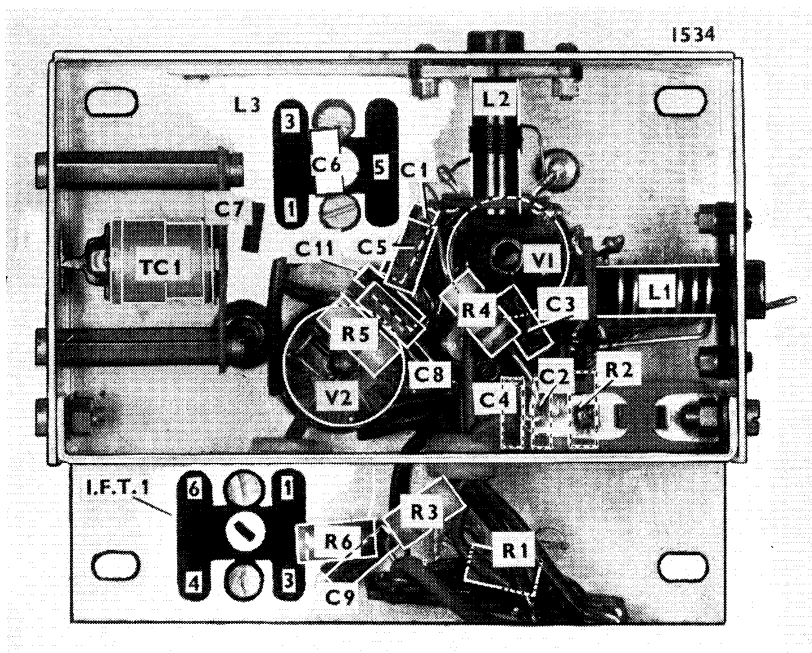

Fig. 4—Under View of F.M. Sub-chassis
R.F. ALIGNMENT (See Fig. 4)
CONNECTIONS TO F.M. OSC. COIL (Fig. 4)